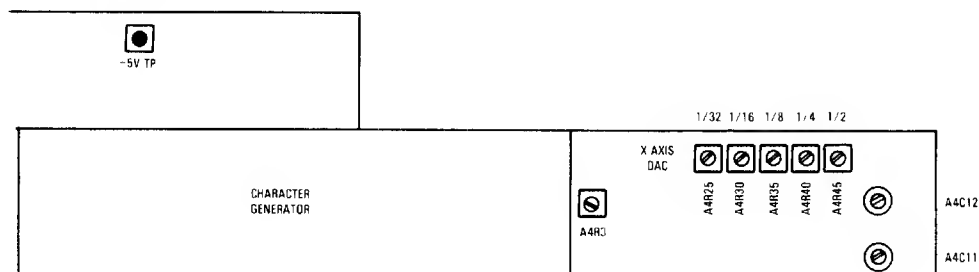

Figure 5-1. +5 V Test Point Location on Display Board
- c. Connect the (+) input of DVM to +5 V test point on Display Board. Connect (-) input of DVM to GND (figure 5-1).